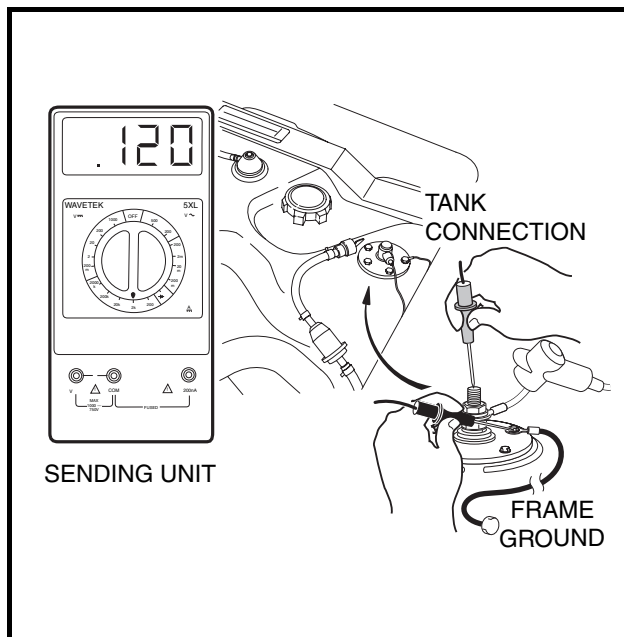

Figure 11-35 Fuel Level Sending Unit Test
3. With a multimeter set to 2 k ohms, place the red (+) probe of the multimeter on the center post of the sending unit. Place the black (–) probe on the ground connection of the sending unit (**Figure 11-35, Page 11-34**).